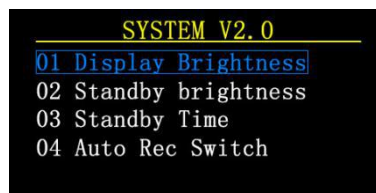

Figure14
5、 System information and settings page (Figure 14)